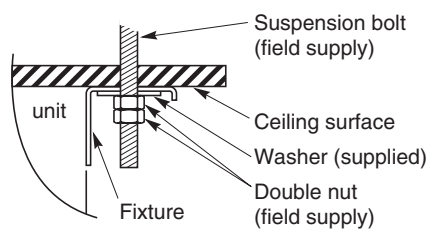

Fig. 1-56
- (6) Preparation for suspending the indoor unit. The suspension method varies depending on whether the unit is next to the ceiling or not. (Figs. 1-56 and 1-57)